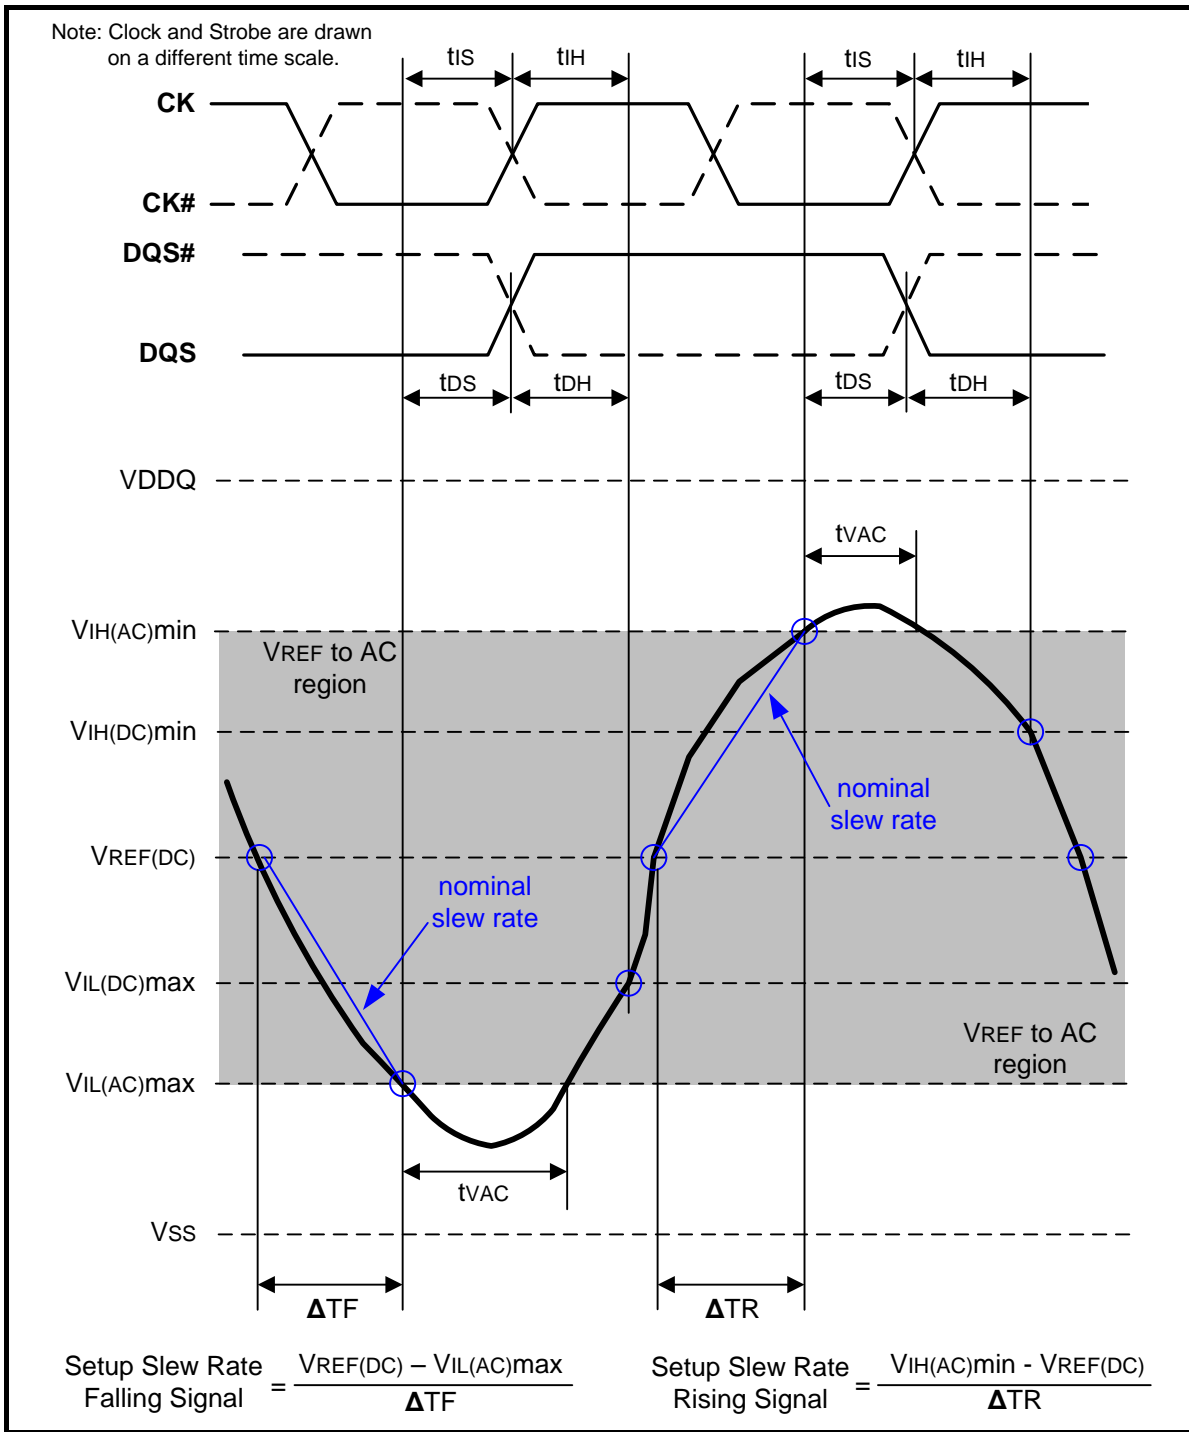
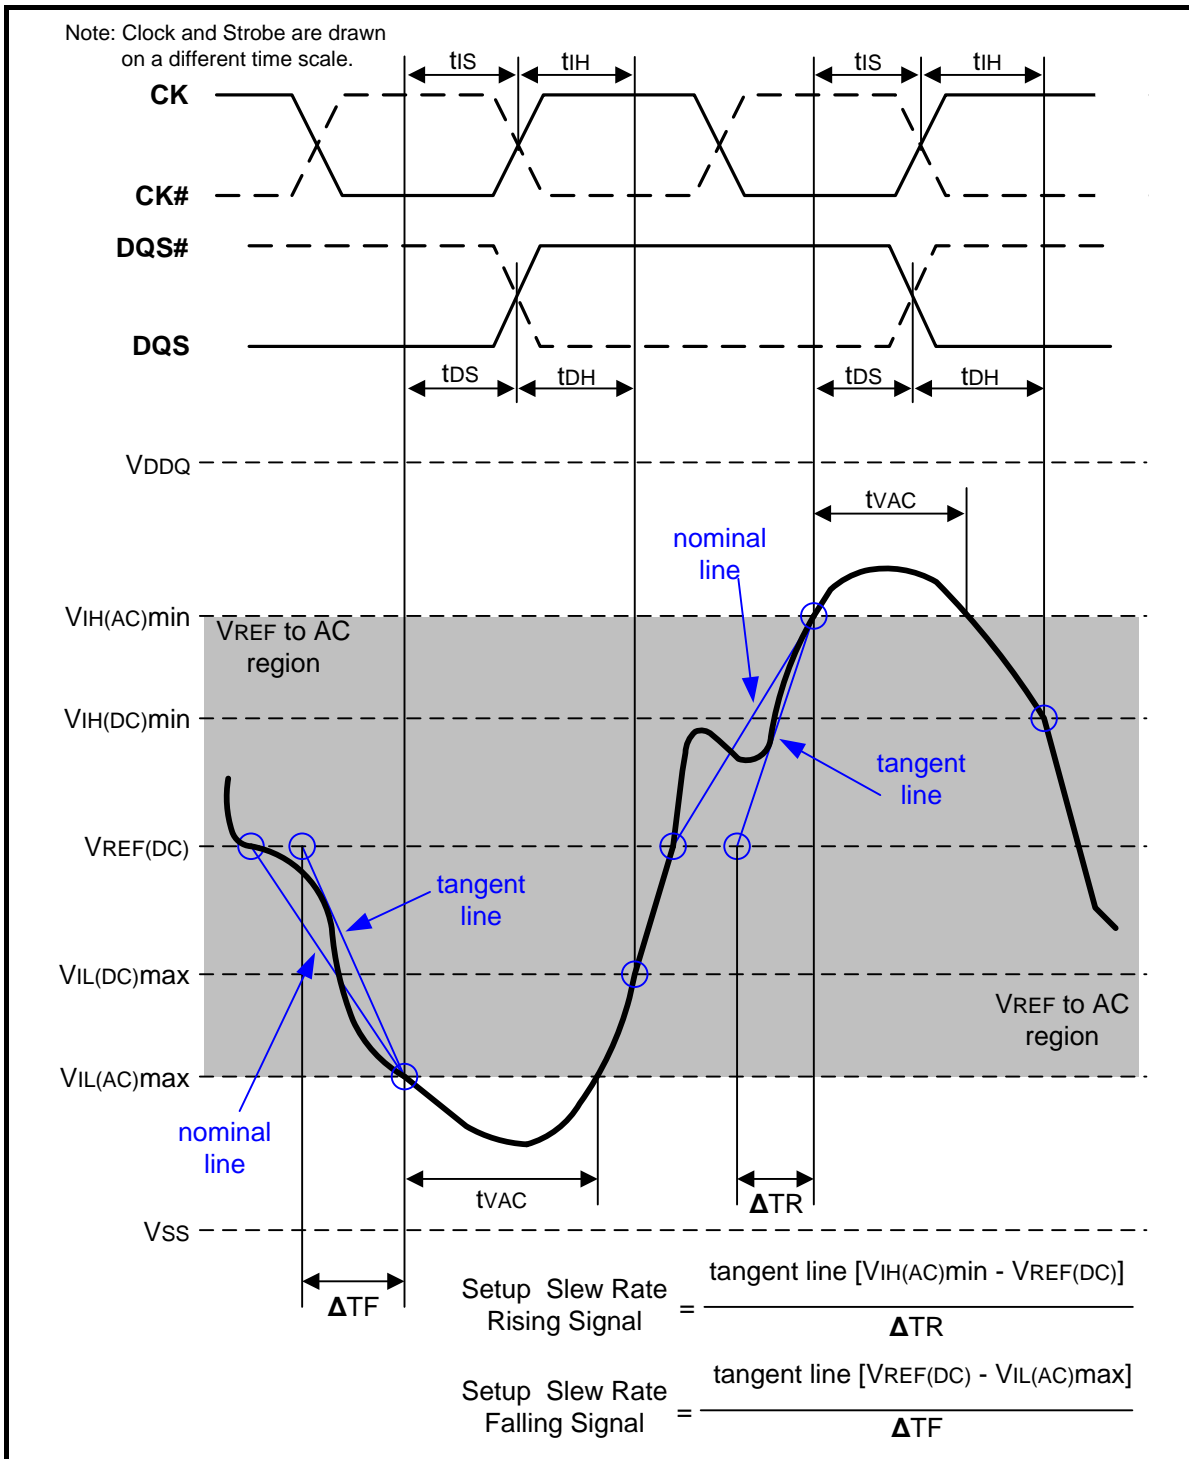

Figure 107 – Illustration of nominal slew rate and tvac for setup time tds (for DQ with respect to strobe) and tis (for ADD/CMD with respect to clock)
Figure 109 – Illustration of tangent line for setup time tds (for DQ with respect to strobe) and tis (for ADD/CMD with respect to clock)
Setup (t_{IS}) nominal slew rate for a rising signal is defined as the slew rate between the last crossing of $V_{REF(DC)}$ and the first crossing of $V_{IH(AC)min}$. Setup (t_{IS}) nominal slew rate for a falling signal is defined as the slew rate between the last crossing of $V_{REF(DC)}$ and the first crossing of $V_{IL(AC)max}$. If the actual signal is always earlier than the nominal slew rate line between shaded 'VREF(DC) to AC region', use nominal slew rate for derating value (see Figure 107). If the actual signal is later than the nominal slew rate line anywhere between shaded 'VREF(DC) to AC region', the slew rate of a tangent line to the actual signal from the AC level to DC level is used for derating value (see Figure 109).
Setup (tDS) nominal slew rate for a rising signal is defined as the slew rate between the last crossing of VREF(DC) and the first crossing of VIH(AC)min. Setup (tDS) nominal slew rate for a falling signal is defined as the slew rate between the last crossing of VREF(DC) and the first crossing of VIL(AC)max (see Figure 107). If the actual signal is always earlier than the nominal slew rate line between shaded 'VREF(DC) to AC region', use nominal slew rate for derating value. If the actual signal is later than the nominal slew rate line anywhere between shaded 'VREF(DC) to AC region', the slew rate of a tangent line to the actual signal from the AC level to DC level is used for derating value (see Figure 109).